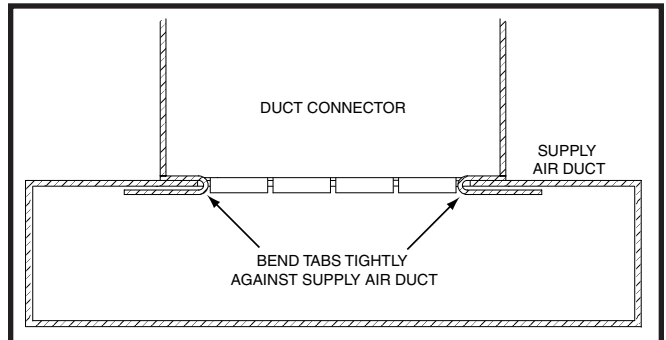

Figure 10. Duct Connector Tabs
8. Bend both tabs up 90° on the mounting plate. See Figure 10 \(page 8\).